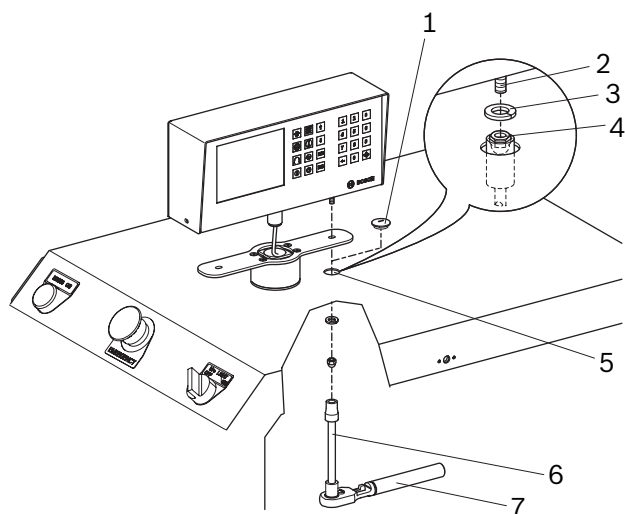

Fig. 14: Tightening the dome nut
5. Open the plug (Fig. 14, Pos. 1).
7. Rotate the HMI such that the HMI stud (Fig. 14, Pos. 2) is directly above the slot on the front panel (Fig. 14, Pos. 5).
8. Insert the spring washer (Fig. 14, Pos. 3) and the dome nut (Fig. 14, Pos. 4) into the lever.
9. Insert the lever through the slot in the front panel (Fig. 14, Pos. 5) and tighten the dome nut.